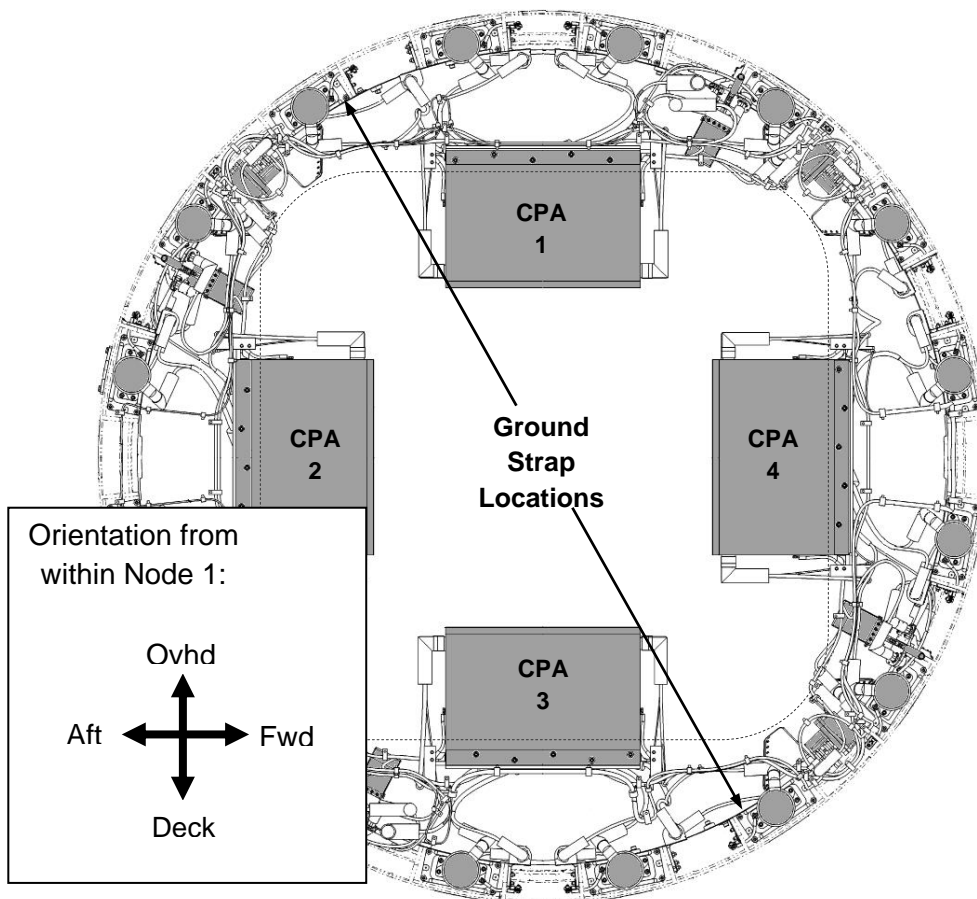

Figure 7.- Ground Strap Locations on ACBM (Interior View).
- 6.3 Locate four Ground Strap Mounting Brackets (two on Active CBM Ring and two on Passive CBM Ring). Gently pull back on MLI Blanket as required. Refer to Figure 7 and 8.